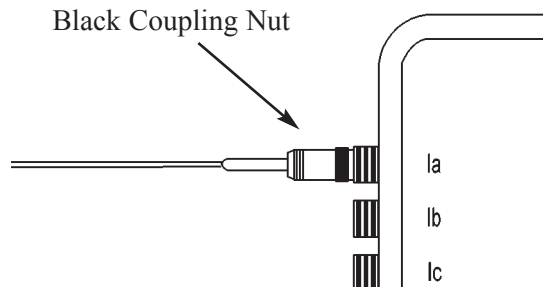

Fig. 3.9: Current Test Plug Inserted
1. Install Current Test Lead Cables into Current Input Receptacles on the outside of the case. The identification label is on the inside of the case. (See Fig. 3.9.)